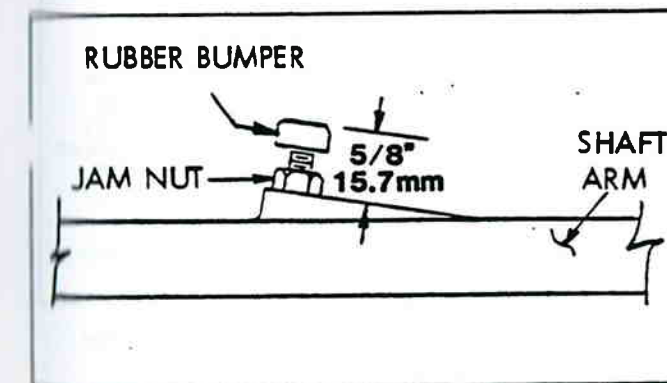

Figure 3-28. Adjustment - Shaft Bumper Stops.
1. Refer to figure 3-28. Adjust rubber bumper stops on both shafts to  $\frac{1}{8}$  inches (15.9 mm). Tighten jam nuts.